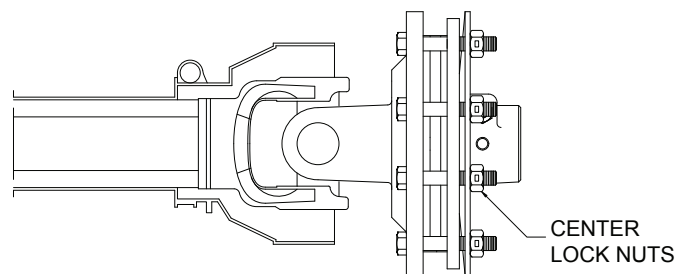

Figure 67: Adjusting the torque limiter
1. Loosen the center locknuts (Figure 67) on the torque limiter so that the pressure is relieved from the pressure plates.